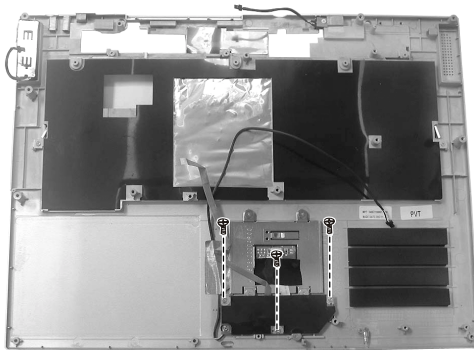

Figure 2-32 Remove the touch pad board
4. Remove the three screws to lift up the touch pad board. (Figure 2-32)